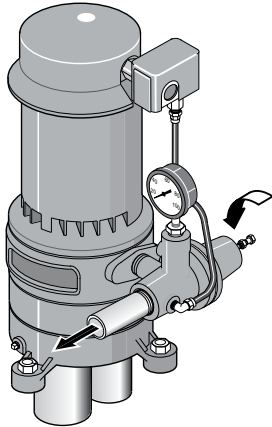

Figure 14A: Close Regulator
- a. Close regulator valve (turn clockwise - see Figure 14A).